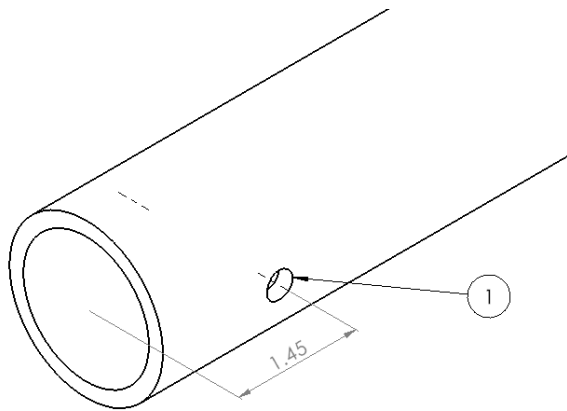

Figure 4.4
Remove the 90-degree corner from the side arm and place it inside the cross tube on both ends. Mark where the mounting holes on the corner are on the cross-tube, they should be approximately 1- $1/2$ " from either end. Drill the mounting holes (1) in the cross-tube using a $11/32$ " drill bit. (Figure 4.4)